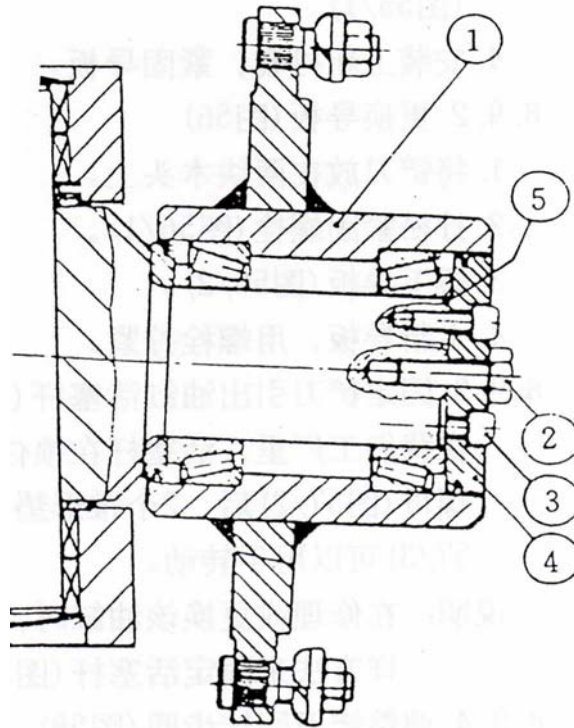

Fig. 54
2. Check the interstice of wheel hub (Fig. 54/1).
3. Loosen the hexagon bolt (Fig.54/2) and hexagon socket head cap screw (Fig.54/3).
4. Remove cover (Fig.54/4).
5. Mount the number of the adjusting shim (Fig.54/5).
6. Disassemble the wheel hub (Fig.54/1) by the use of proper drawing tools. Clean wheel hub, front wheel spindle, bearing and cap; if damaged, replace seal ring and bearing to be used on new cap.
9. Check the bearing clearance. Take out one of adjusting spacer (Fig. 54/5) if necessary.
10. Use bolt to reassemble cap (Fig.54/4) , screw the hexagon socket head cap screw (Fig.54/3) of 78Nm and hexagon bolt (Fig.54/2) of 250Nm according to specified moment of force. The hexagon socket head cap screw shall be screwed face to face crosswise orderly.
11. The wheel hub (Fig.54/1) shall be turned easily and without jounce. When checking, the wheel hub should not have a screw crosswise.